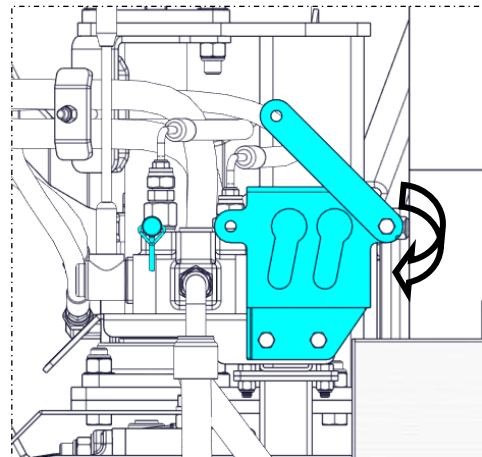

Figure 4.20
- B) Rotate the lock plate clockwise (Figure 4.20). If the lock plate is too tight, loosen the bolt at the bottom of the lock plate.